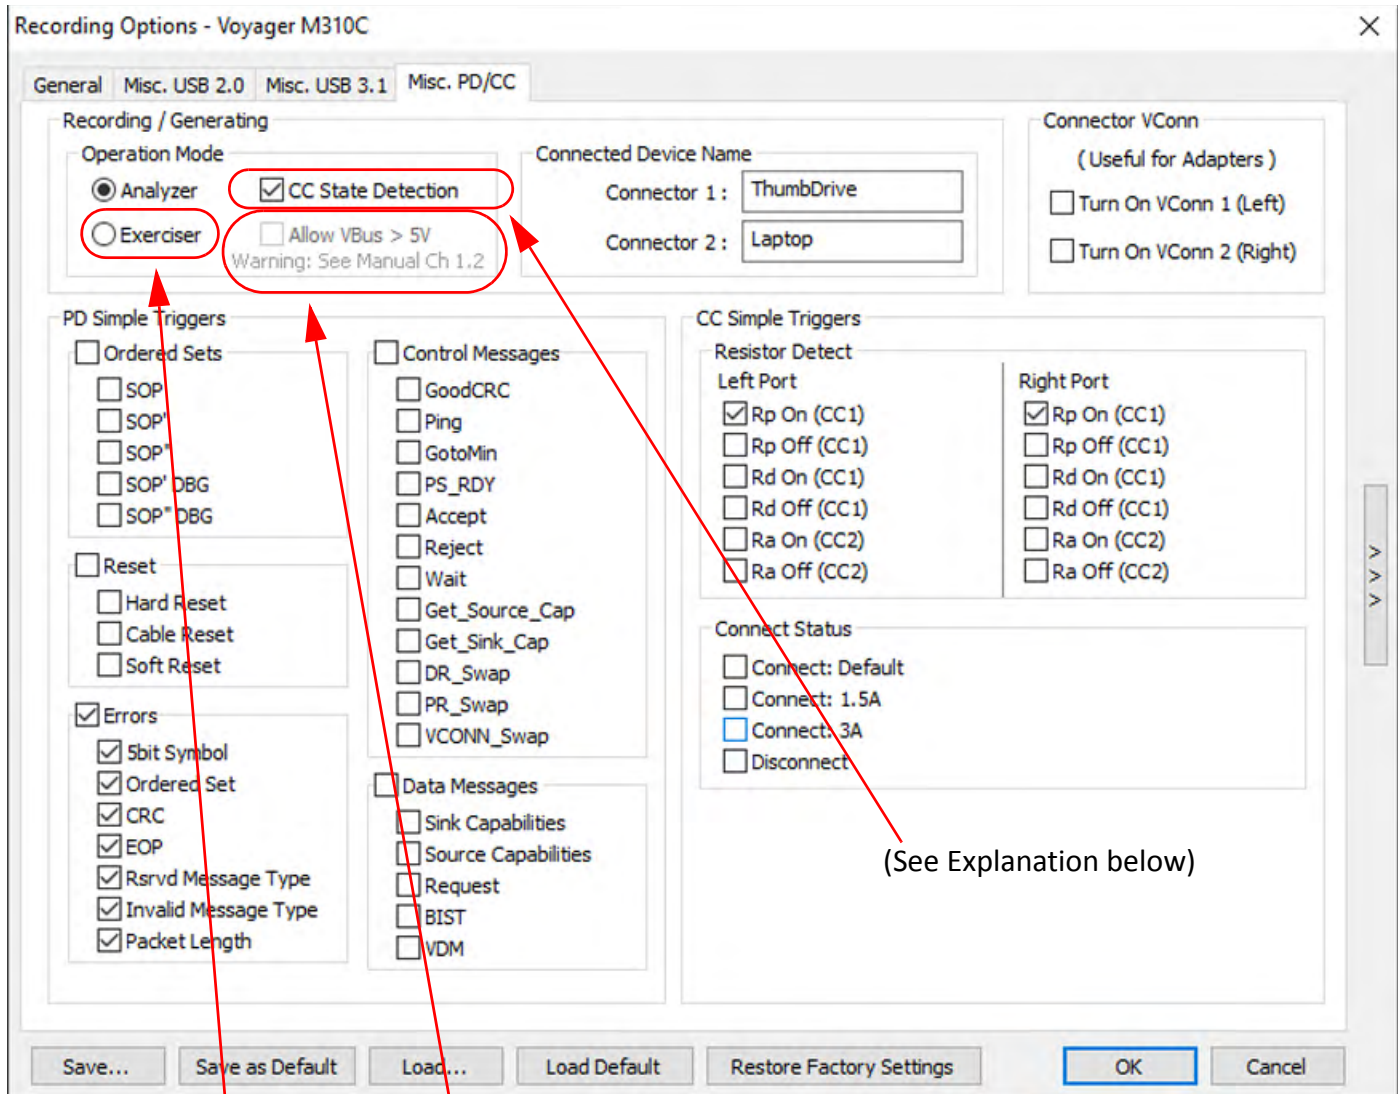

Figure 10.14: Voyager M310C: Recording Options for PD and CC Events
The Simple Trigger Options for Power Delivery (PD) and Channel Configuration (CC) events are shown in Figure 10.14 on page 343.